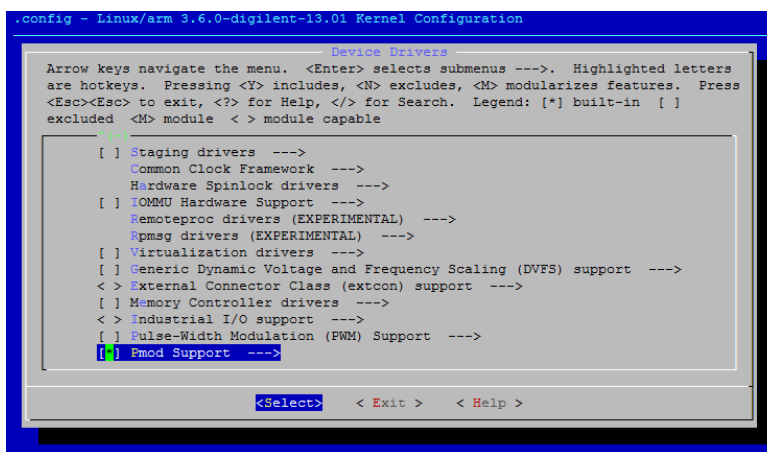

**Figure 37. Linux Kernel Configuration Menu**
**IV-3** We will change the configuration for the PmodOLED driver changing it from a built-in driver to a loadable kernel module. To do this, we will start the configuration menu for the Linux kernel by following Example 15. The configuration screen will show up in your terminal as Figure 37.